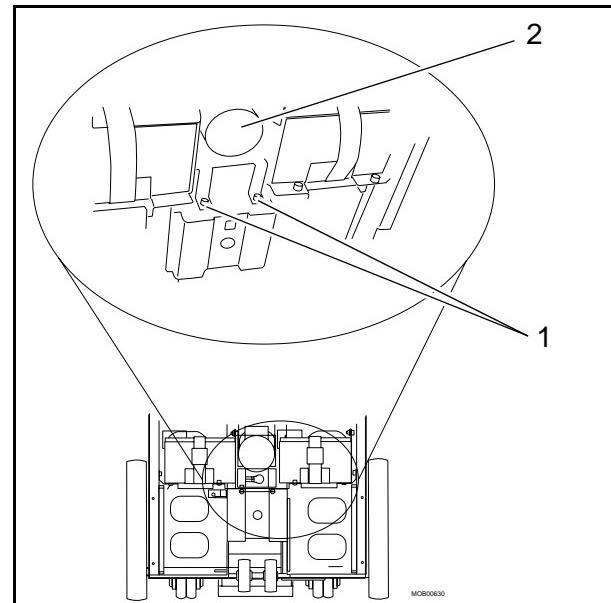

Fig. 6
- Remove the two screws (pos. 1 / Fig. 6)
- Remove the capacitor bank, M11 (pos. 2 / Fig. 6).